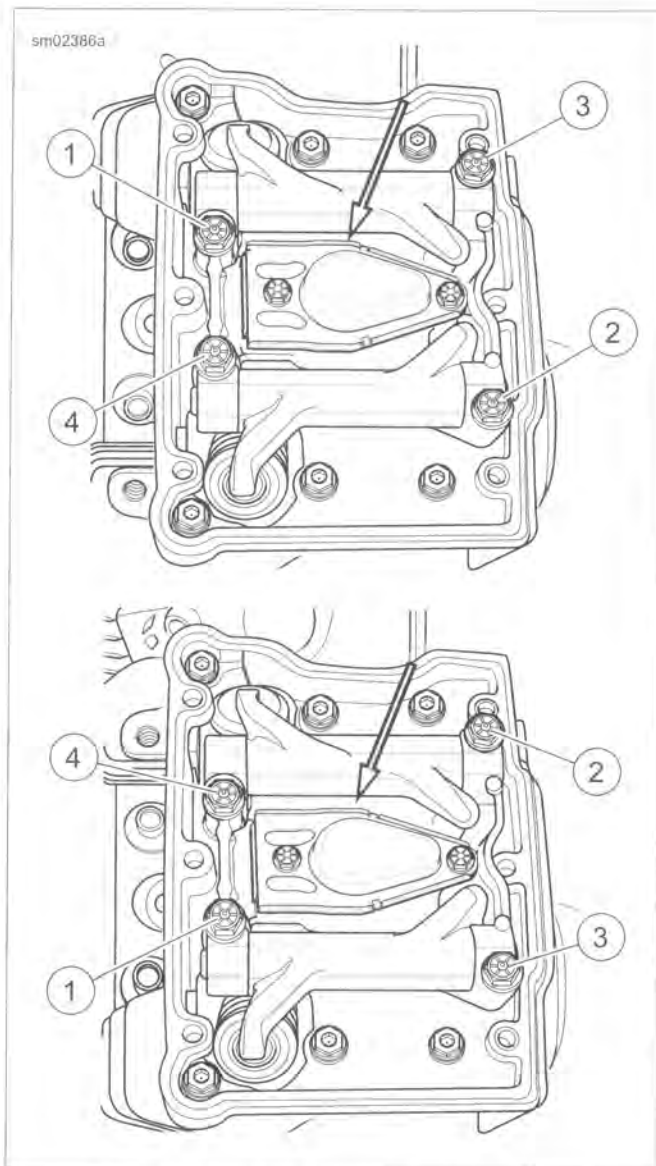

Figure 3-75. Rocker Arm Support Tightening Sequence
2. See Figure 3-75. Place the rocker arm support plate assembly into the rocker housing. Loosely install four screws.